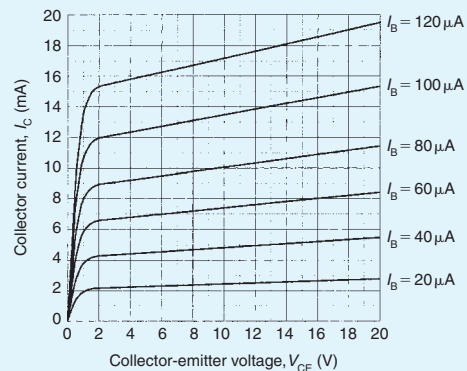

Figure 12.27
- The output characteristics for a BJT are shown in Fig. 12.27. If this device is used in a common-emitter amplifier circuit operating from a 12 V supply with a base bias of $60 \mu\text{A}$ and a load resistor of $1 \text{ k}\Omega$, determine (a) the quiescent values of collector-emitter voltage and collector current, and (b) the peak-peak collector voltage when an $80 \mu\text{A}$ peak-peak signal current is applied.